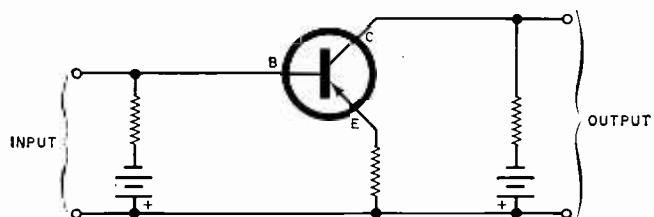

Fig. 14. The emitter of a *pnp* transistor is biased positively with respect to the collector. For *npn*'s, the reverse is true.
**TRANSISTOR BIASING** In *pnp* transistors, the emitter is connected to a positive supply voltage, usually through a stabilizing resistor (See Fig. 14). In *npn* types, the emitter receives a negative voltage through a resistor. The collector voltage for both types is always opposite in polarity to the emitter voltage, and is usually applied through a load resistor.